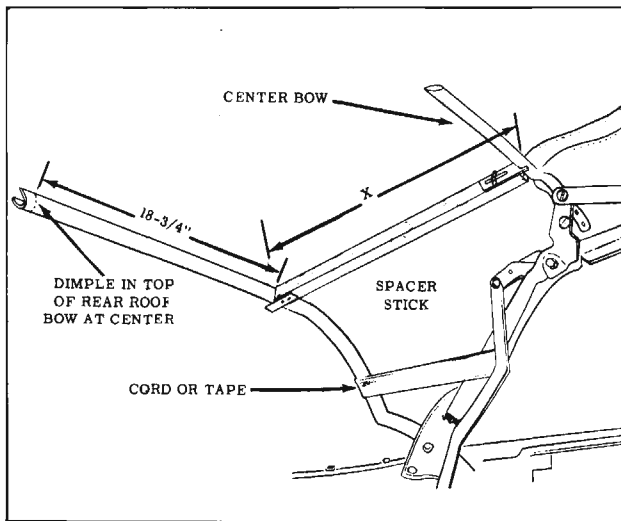

Fig. 16-116 Installation of Spacer Sticks
14. Lock top to windshield header. Install radius end of each adjustable spacer stick to fit against center roof bow. Install opposite end of spacer stick so that metal plate fits under rear roof bow (Fig. 16-116) Spacer sticks should be installed along inboard edge of side stay pad.
16. Temporarily tie or tape rear bow to rear side roof rails. (Fig. 16-116) Detach nylon webbing, side stay pads and back curtain assembly from rear bow.
1. If new top is being installed but it was impossible to perform step 14 of removal procedure, preset spacer sticks to shortest length and install between center and rear roof bow. (Fig. 16-116) Adjust sticks so that dimension "X" in Fig. 16-116 (measured along spacer stick from front upper rolled edge of rear roof bow to center of center bow) is  $16-3/8" \pm 1/4"$ .